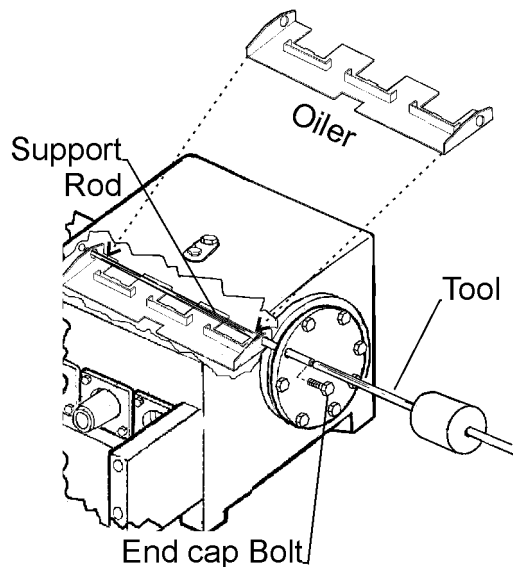

Figure 78 Installing Oil Ramp
1. Remove end cap bolt. See Figure 78
2. Place ramp in back of crankcase on top of crankshaft. See Figure 78